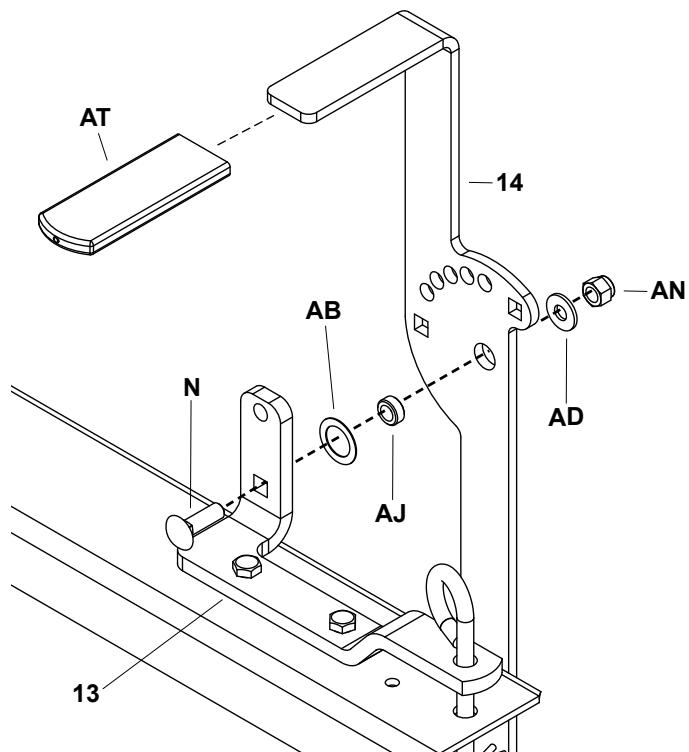
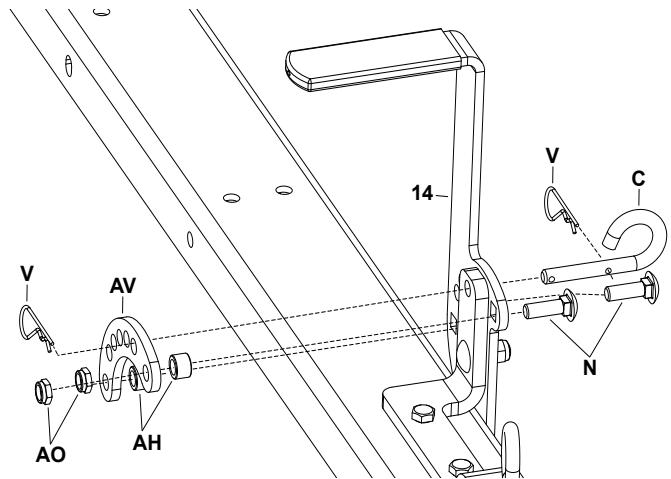
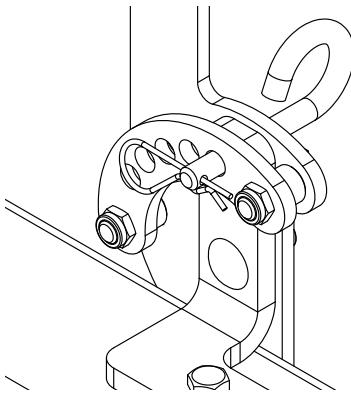

FIGURE 2
FIGURE 3
FIGURE 3A
- Install the handle grip (AT) onto the stand handle bracket (14) as shown below.
- Install a 3/8" x 1-1/4" carriage bolt (N) through the bottom square hole on the hitch stand bracket (13).
- Install a 1-1/8" washer (AB) onto the 3/8" x 1-1/4" carriage bolt (N) followed by a 17/64" long spacer (AJ).
- Place the stand handle bracket (14) onto the 3/8" x 1-1/4" carriage bolt (N). Make sure the spacer (AJ) sits in the round hole on the stand handle bracket (14).
- Secure with a 7/8" washer (AD) and a 3/8" nylock nut (AN). Do not fully tighten hardware. See figure 2.
- Install a 3/32" x 2-5/16" hair cotter pin (V) into the upper hole of the 3/8" x 1-1/2" pivot lock pin (C).
- Then install the 3/8" x 1-1/2" pivot lock pin (C) into the first round hole on the front of the stand handle bracket (14) and then through the hitch stand bracket (13).
- Install the stand stop plate (AV) onto the 3/8" x 1-1/2" pivot lock pin (C) as shown below. Secure with a 3/32" x 2-5/16" hair cotter pin (V).
- Install a 3/8" x 1-1/4" carriage bolt (N) into the forward square hole of the stand handle bracket (14) and install a 7/16" long spacer (AH) onto the bolt between the stand handle bracket (14) and the stand stop plate (AV).
- Secure with a 3/8" jam nylock nut (AO).
- Repeat bullet points 3-5 using the rear square hole on the stand handle bracket (14).
- Tighten all hardware from Figures 2 and Figure 3. See figure 3.
- Figure 3A shows what Figure 2 and Figure 3 looks like after assembled.